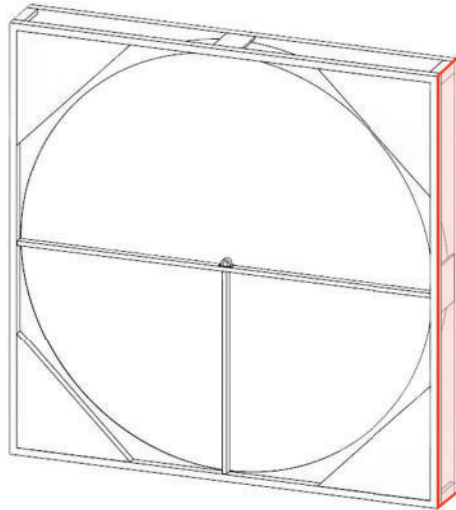

Figure 39: Model EQ side panels.
- Make sure the side panel where motor is fitted is accessible for inspection and maintenance. See figure 39.